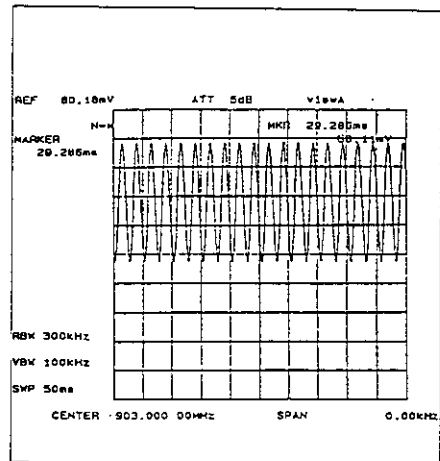

Figure 5-14 Reading  $E_{\text{max}}$
- ⑩ Next, read  $E_{\text{max}}$  and  $E_{\text{min}}$  to find  $m$ . Set the marker to the maximum value of the waveform, read its  $E_{\text{max}}$  level, and write it down (see Figure 5-14).